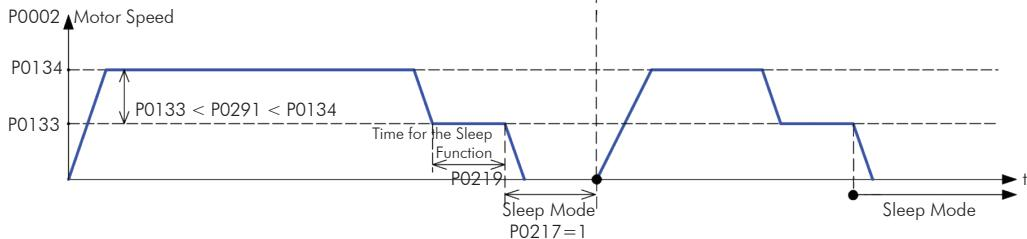

Figure 20.2 - (a) to (c) - PID action type
2) To define the type of PID action that the process requires: direct or reverse. The control action must be direct (P0527 = 0) when it is necessary that the speed increases for the process variable to increase. Otherwise, select reverse (P0527 = 1). See Figure 20.2 on page 20-4.
The sleep mode is a useful resource for saving energy when using the PID regulator. Refer to the Figure 20.2 on page 20-4.
However, the P0291 setting must be: P0133 < P0291 < P0134. Refer to the Figure 20.2 on page 20-4.